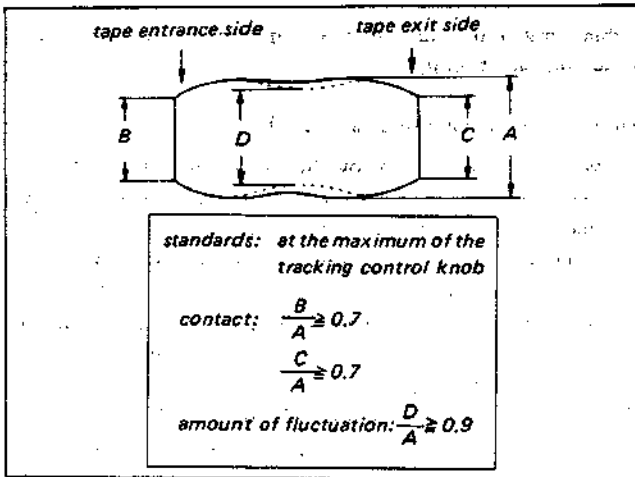

Fig. 4-2.
- 5) Confirm that the oscilloscope radio frequency output waveform is flat and that the amplitude is a maximum. (Turn the tracking knob right and left to increase and decrease the amplitude while the waveform remains flat.) When the amplitude of the waveform is a maximum, confirm that the fluctuations and contact of the radio frequency output waveform meet the standards given in Fig. 4-2. If they do not, go through the procedure given in step 6).